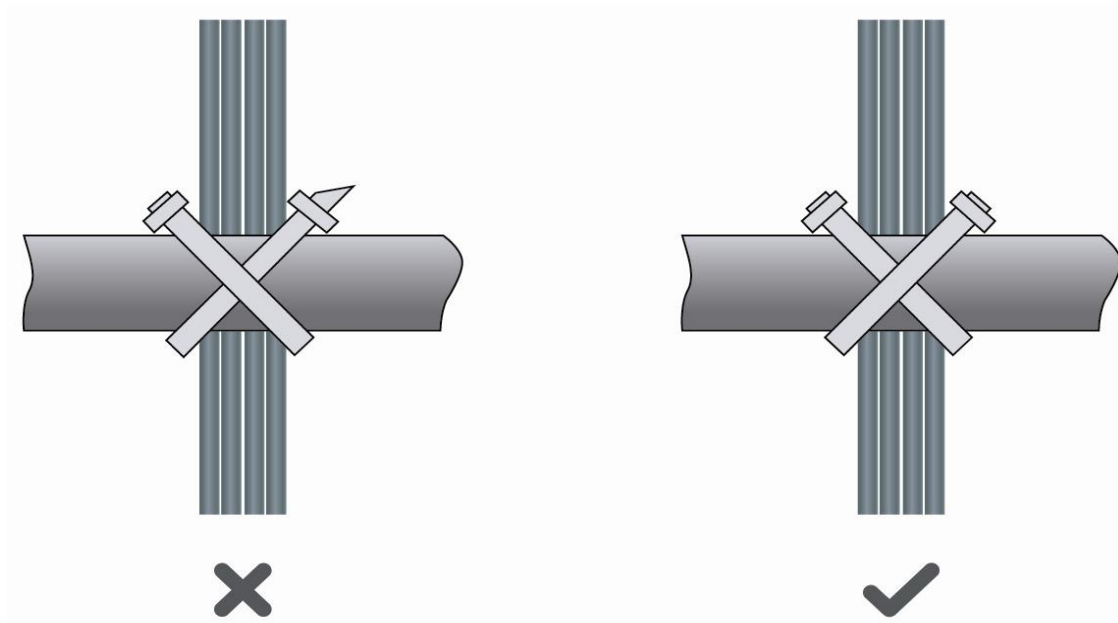

Figure D-2 Binding Cables (2)
- After bundling up cables with cable ties, cut off the remaining part. The cut should be smooth and trim, without sharp corners, as shown in Figure D-2.